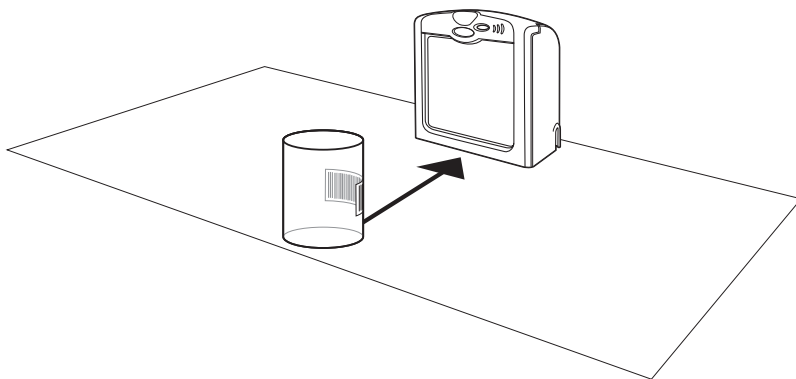

Figure 2-3. Scanning a Bar Code - Presentation Method
3. Move the item through the active scan area in the direction of the arrows (swipe scanning, see Figure 2-2), or place the item in front of the scanner (presentation scanning, see Figure 2-3). Ensure that the scan lines cross every bar and space of the symbol.